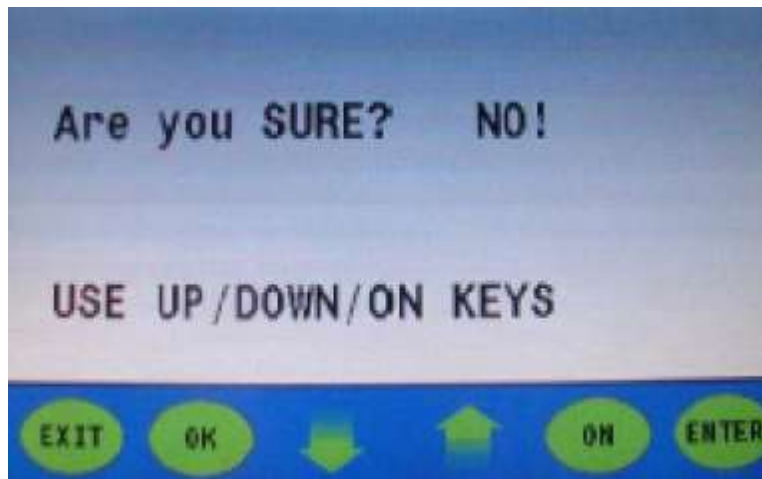

Figure 3
3. Press the enter button (figure 2) the display will read "no" (figure 3).